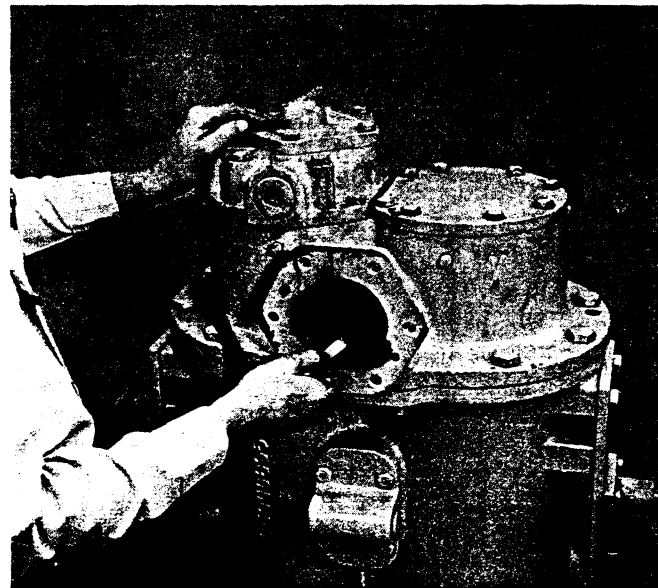

Figure 33
22. With a feeler gauge measure the discharge end clearance of each lobe of each rotor. Refer to Figure 33. This can be done through the discharge port. This is dimension "C". This dimension, as measured, must be within 0.001 inch of the discharge clearance tried for in the calculation done in Step 14. (It will usually be about 0.001 inch less than calculated due to metal deformation when the covers are torqued down). The discharge clearance must be between 0.002 and 0.004 inch. If it is not, go back to Step 3 and start again.